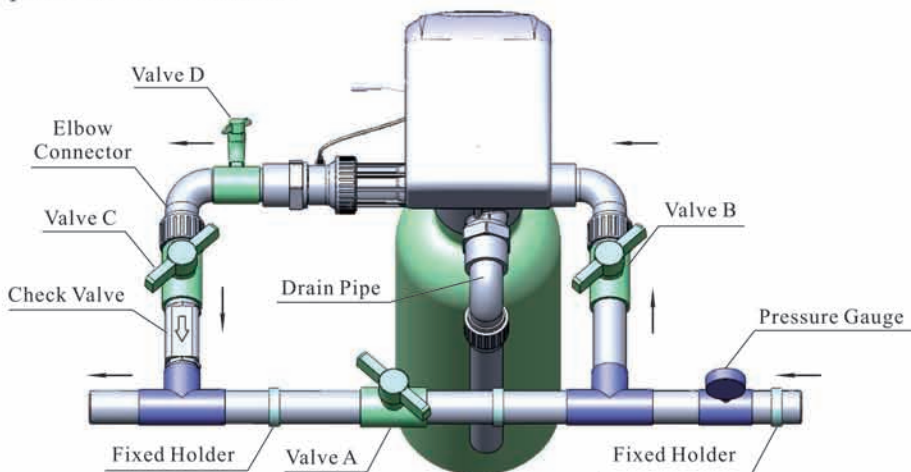

Figure 1-3
- As figure 1-3 shows, install a pressure gauge in water inlet.